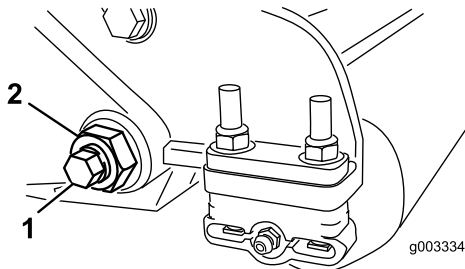
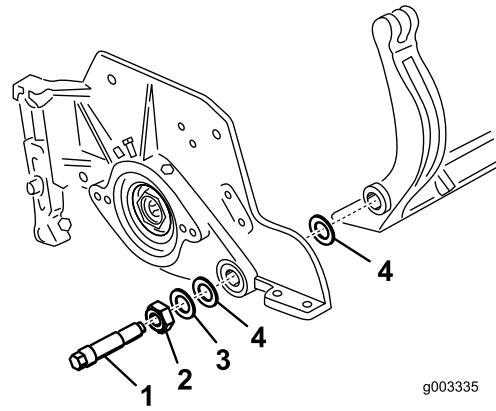

Figure 31
Figure 32
3. On each side of the machine, loosen the locknut securing the bedbar bolt (Figure 31).
4. Remove each bedbar bolt, allowing the bedbar to be pulled downward and removed from machine bolt (Figure 31). Account for 2 nylon washers and 1 stamped steel washer on each end of the bedbar (Figure 32).
4. Place a steel washer outside each of the nylon washers (Figure 32).